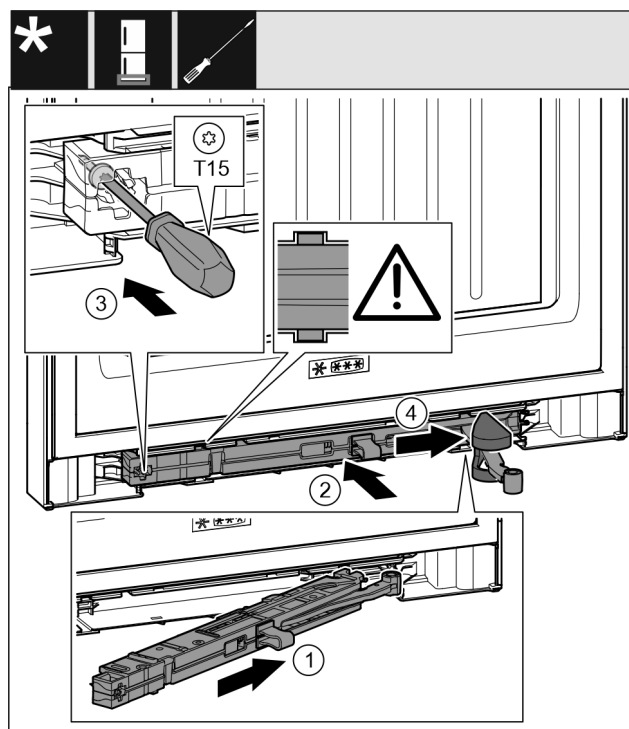

Fig. 52
- ▶ On the swap bearing block side, slide the closing damper unit *Fig. 52 (1)* into the recess at an angle up to the stop.
- ▶ Push the closing damper unit *Fig. 52 (2)* into the recess completely.
- ▶ Use a screwdriver to tighten the screw *Fig. 52 (3)*.
- ▶ Push the cover *Fig. 52 (4)* over the joint.